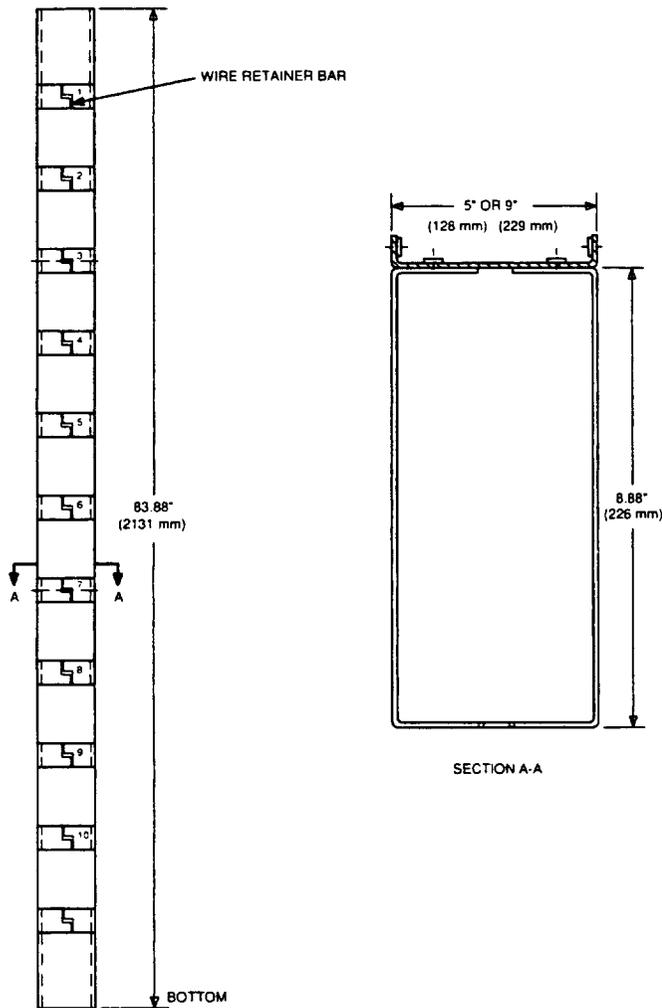

Figure 6. COSMIC Mini DF — Vertical Cabling Trough
4.07 The vertical cabling trough (Figure 6) is generally provided between cross-connect/protection and cross-connect bays. It is used to route jumper wires between two horizontal wiring shelves of adjacent bays and to route jumpers vertically to the express trough. Two vertical cabling troughs are available: 5 inches (127 mm) wide by 9 inches (229 mm) deep and 9 inches (229 mm) wide by 9 inches (229 mm) deep. The larger is used for custom arrangements with larger numbers of terminations and accepts standard Mechanized Engineering and Layout for Distributing Frames (MELD) frame labels.
5.02 The 307C1-100 connector (Figure 6) provides protection only and is used for protection and test access for T-Carrier systems. No connecting block is provided. It consists of a protector panel, interconnected with eight 710-SD1-25 splicing module connectors. Four of the 710 splice connectors are dedicated to the T-Carrier equipment cable. The other four connectors provide connection to two 50-pair or one 100-pair tip cable to the outside plant. The 710 splice modules provide rapid connection to 11-type cable stubs equipped with mating 710 bridge connectors.